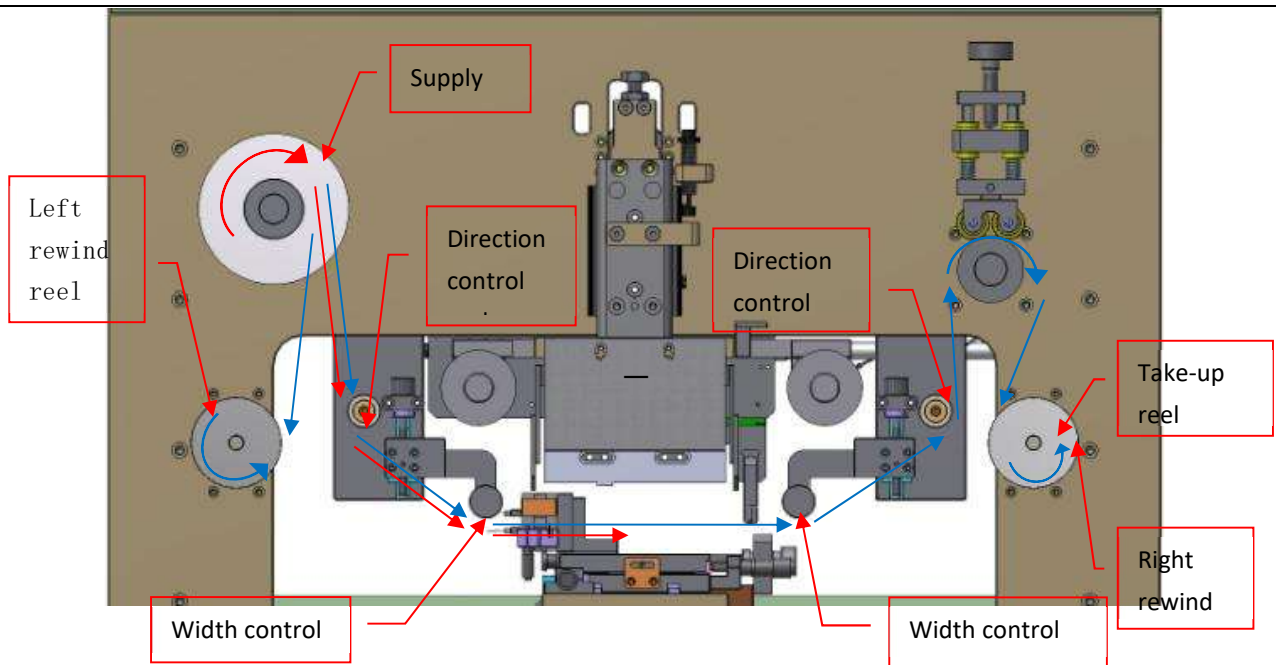
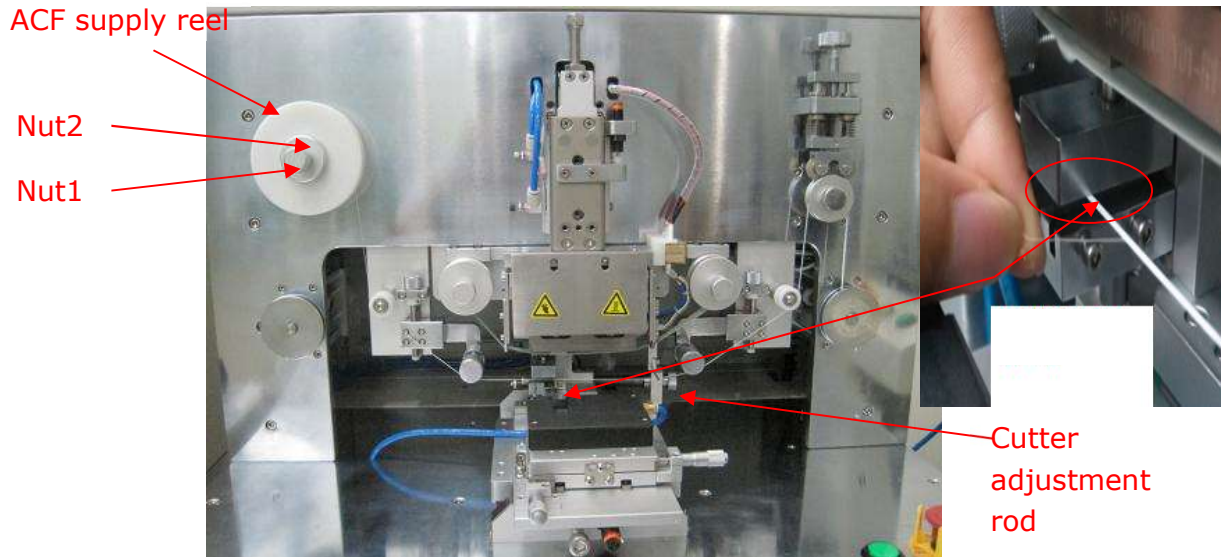

Figure 4.4
Figure 4.5
3. Load reel of ACF onto ACF prebond supply reel and thread under the prebond head and onto ACF take-up reel (Figure 4.4 and 4.5).
4.3.1 The appropriate ACF threading is shown in figure 4.4. Red arrows are the path of ACF while blue arrows are the path of release tape. If there are two release tape layers, the under layer is received by the left rewind reel.
4.3.2 The method of mounting the ACF supply reel is shown in figure 4.5. In order to add the ACF reel to the ACF prebonder, remove nut 1 and nut 2, put the full ACF reel onto the supply reel shaft and insert and tighten nut 1 and nut 2 against reel. Thread ACF as shown in figure 4.4 and attach to the take-up reel. Turn cutter adjustment (if required) and ensure cutter's good position with prebond head. In touch panel, press "Manual Mode" -> "Cutter Cyl in" -> "Cutter Cyl out" in order to cut off the first end of ACF. Then use a piece of scotch tape to touch the exposed ACF on the right side of the half-cut blade and peel the extra ACF from the release tape. The end of the ACF should now be at the half-cut position of the blade. If done correctly, the right edge of the ACF is now aligned with the left edge of the thermode and the prebonder is ready to run a product program.